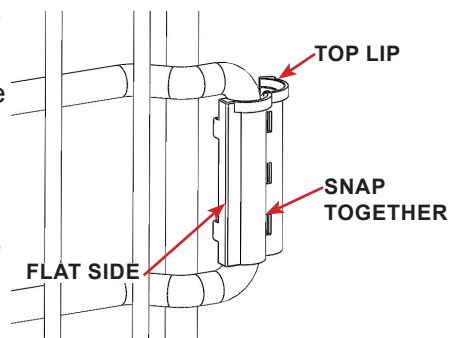

FIGURE 3.13 - Hinge Bushing Installation
**STEP 10:** Reinstall the hinge bushings with the larger end at the top. The top lip prevents the hinge bushing from sliding through the hinge assembly. Snap the two pieces together with the flat side of the bushings facing the cage door. See FIGURE 3.13